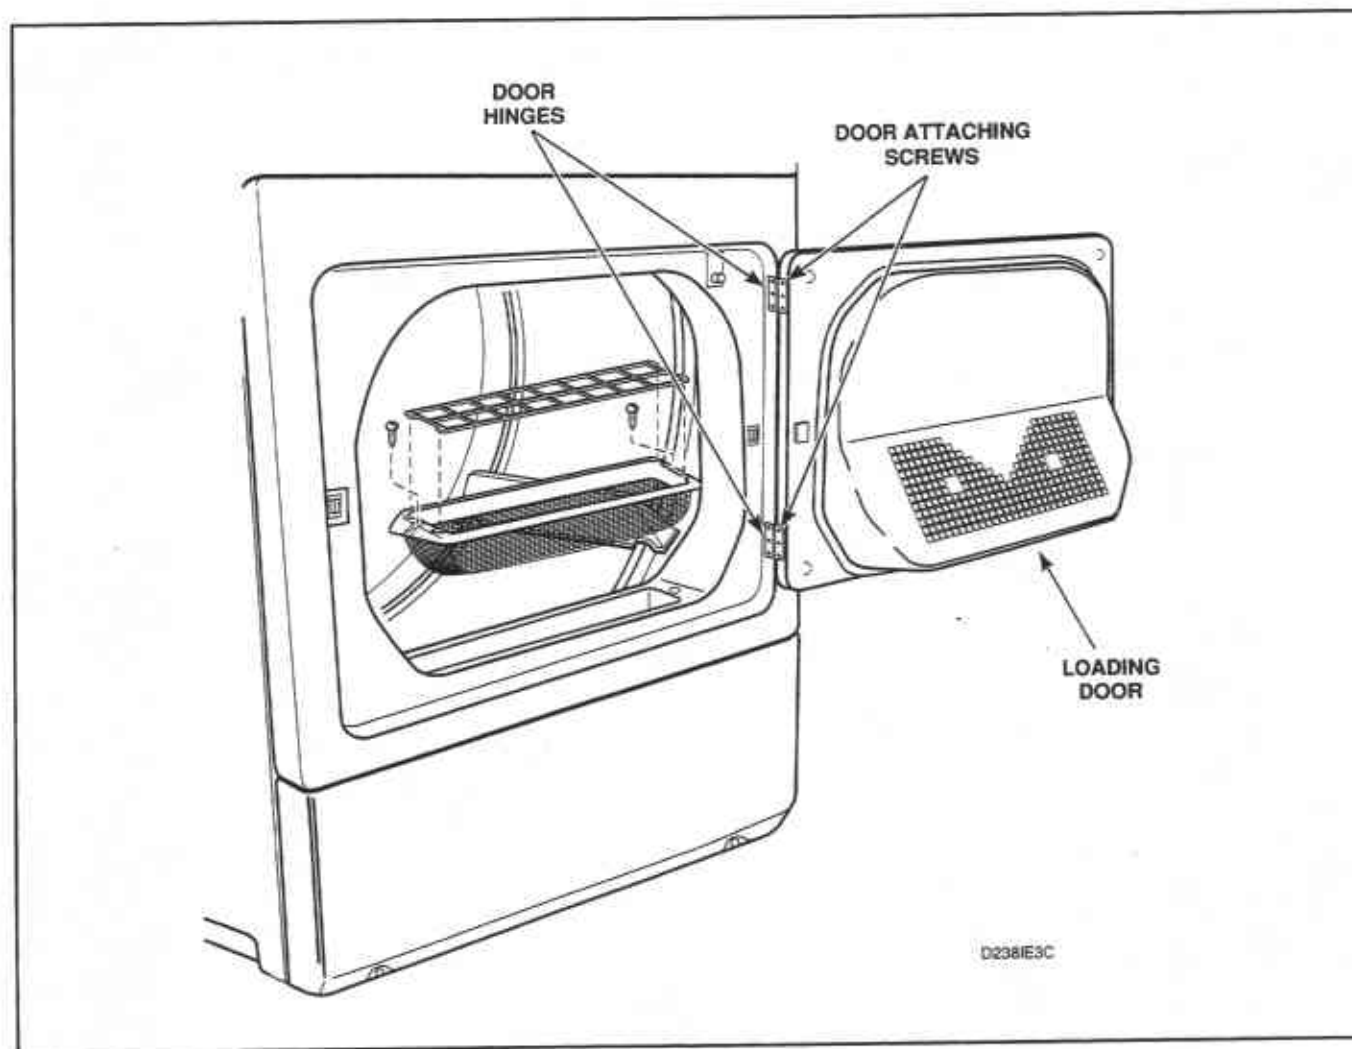

Figure 19
- Open loading door and, while supporting door, remove four screws holding door assembly to hinges, *Figure 19*.
- Remove four screws holding hinges to front panel, *Figure 19*.